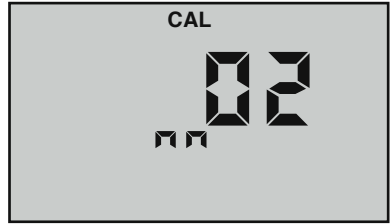

Figure 13
7. Press $\left(\begin{array}{c} \text{CAL} \\ \text{MCLR} \end{array}\right)$ to accept the change to the new month (see Figure 13).